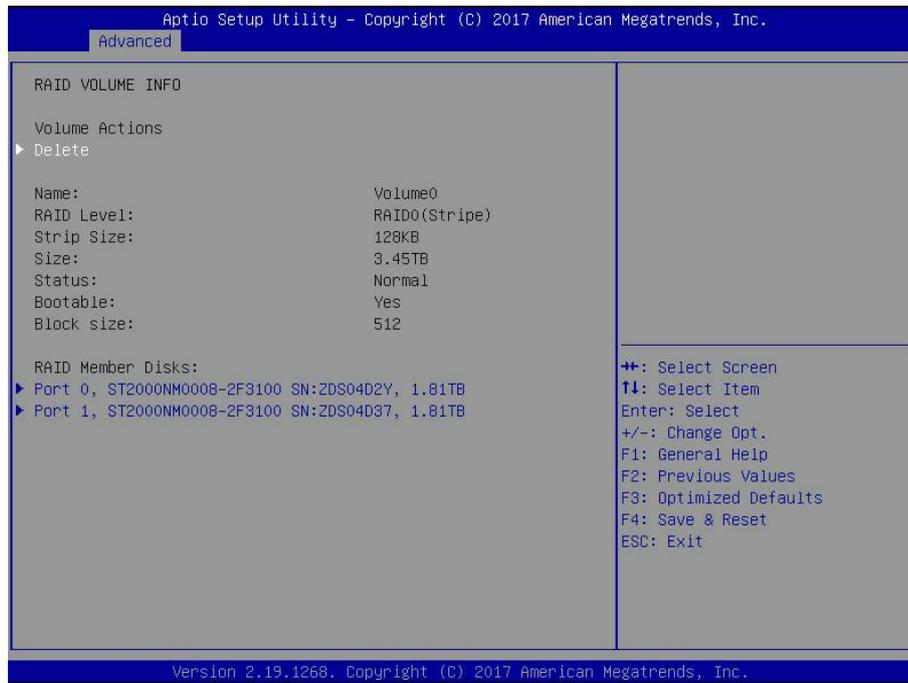

Fig.6.12
- c) Enter the RAID information interface shown in Fig. 6.12, select Delete and press Enter to delete RAID.